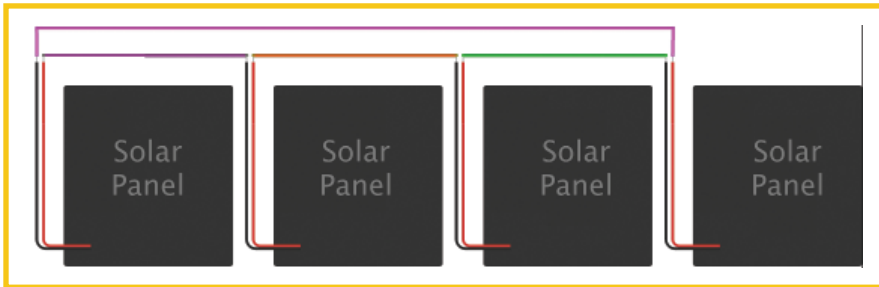

FIGURE 4.25 Hook up the solar cells in series.
STEP 4 Hook up the cells as shown in Figure 4.25—each positive wire is plugged into its neighbor's negative wire.